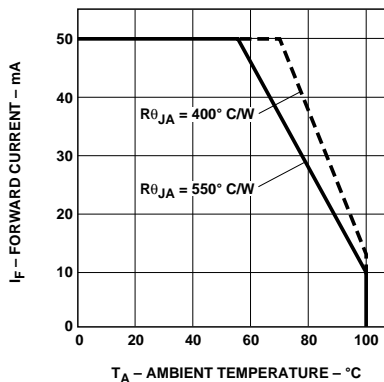

Figure 6. Maximum Forward DC Current vs. Ambient Temperature. Derating Based on $T_{JMAX} = 110^\circ\text{C}$.
3. Derate linearly as shown in Figure 6.